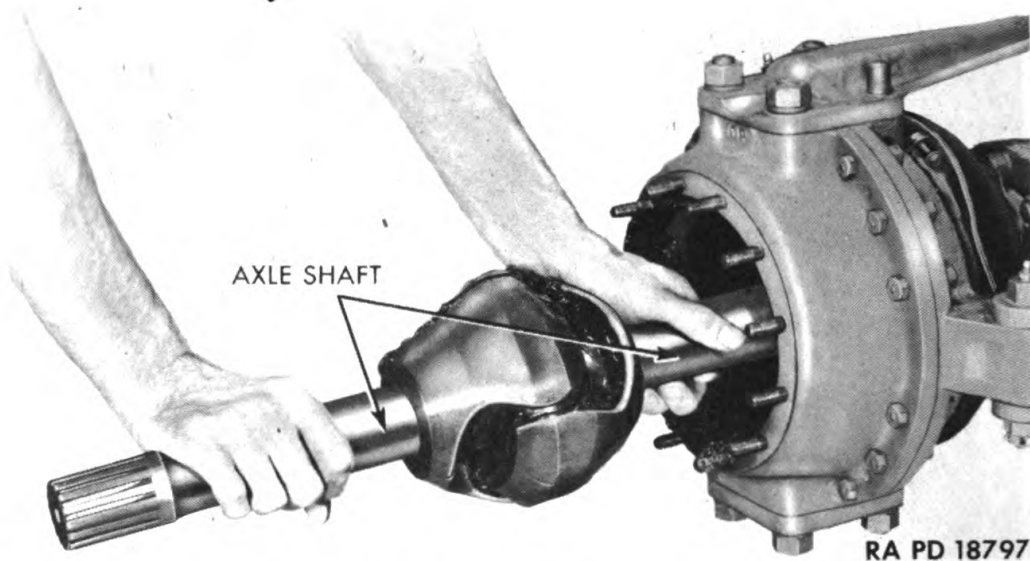
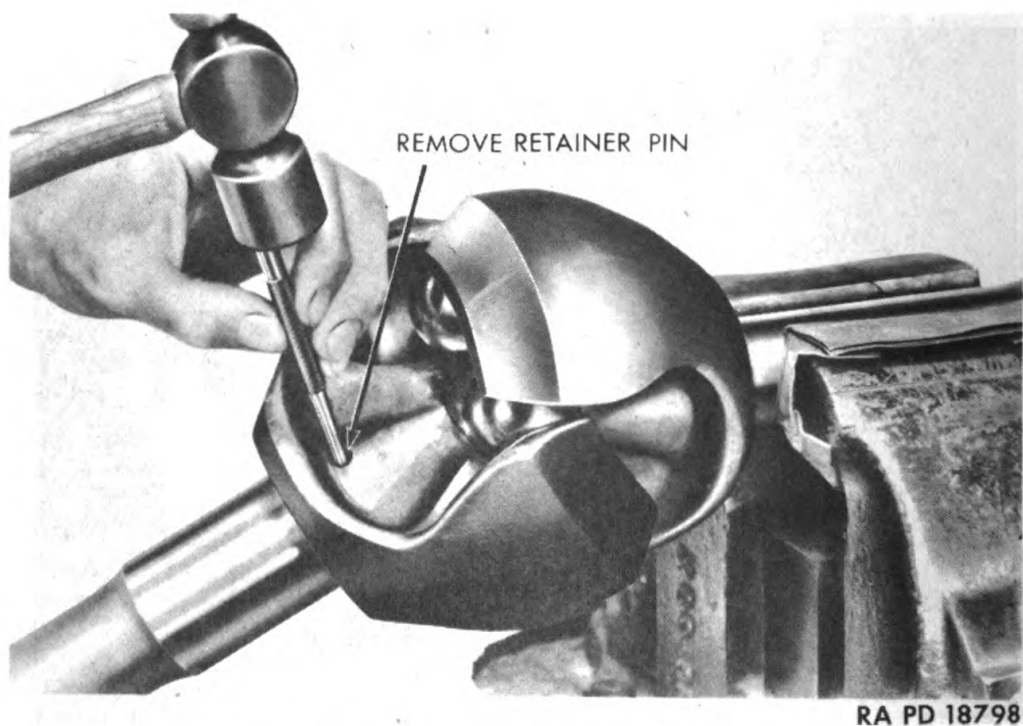
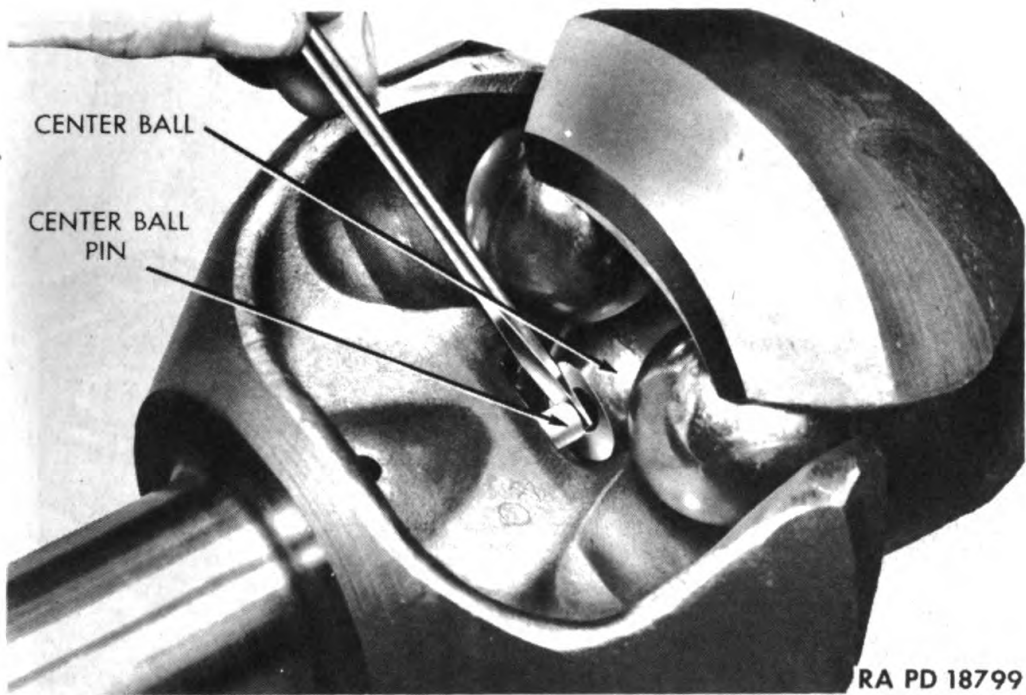

Figure 30 — Removing Front Axle Shaft
Figure 31 — Removing Universal Joint Taper Pin
Figure 32 — Removing Universal Joint Center Ball Pin
g. **Disassemble Axle Shaft.** Remove axle shaft from housing (fig. 30). Remove retainer pin from universal joint, using small pin punch and hammer (fig. 31). Slide center ball pin out of drilled center ball (fig. 32), or bounce the wheel end of the shaft on a block of wood to cause the center ball pin to move into the drilled passage in the wheel end of the axle shaft. Pull the two halves of the joint apart. With the fingers, turn the center ball so